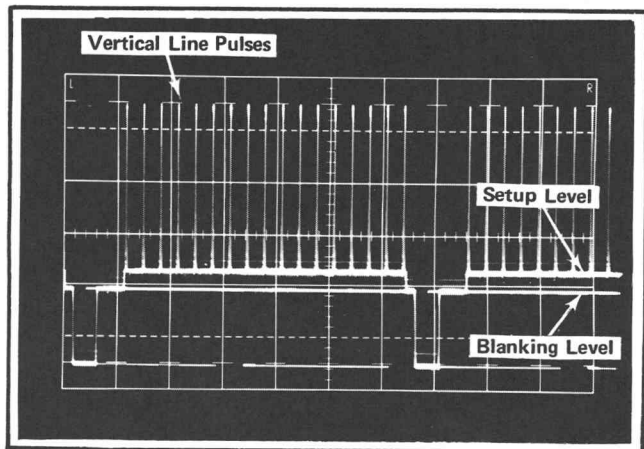

Fig. 5-42. Typical test oscilloscope display showing vertical line pulses.
c. CHECK—Test oscilloscope display; there should be 17 vertical line pulses as shown in Fig. 5-42.